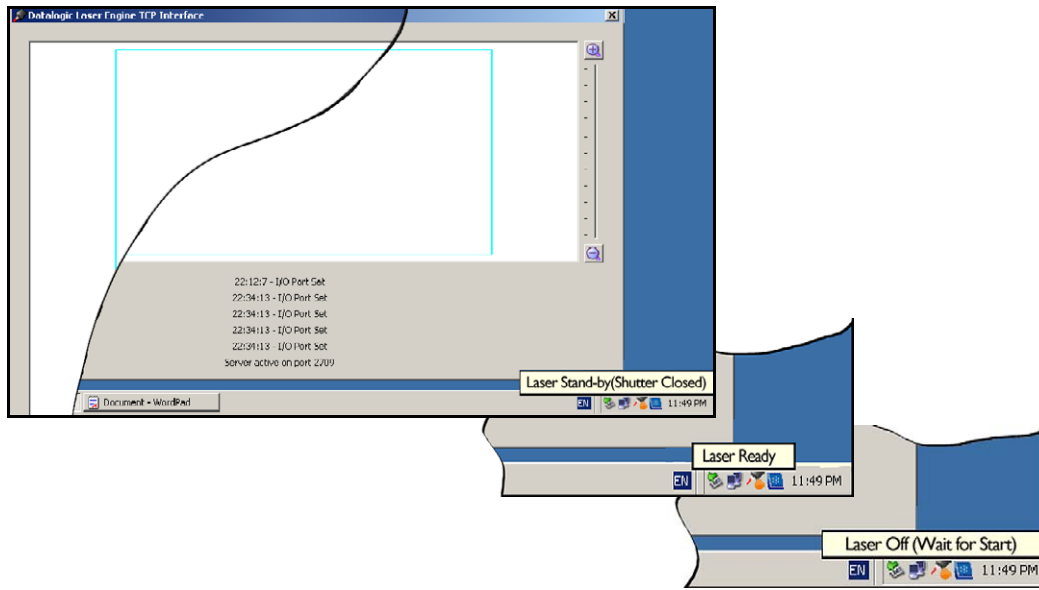

Figure 39: Tool tip icons indicating laser status.
2. Mouse-over the Lighter icon in the Windows taskbar. See Figure 39.